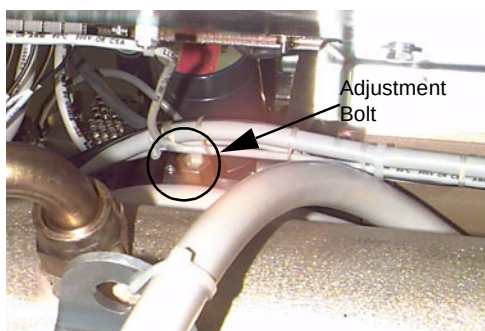

Figure 9-19 ISO Adjustment Bolt
- 11.) Using a 10 mm hex, loosen the four (4) M-12 bolts on the tube assembly.
- 12.) Refer to Figure 9-19.